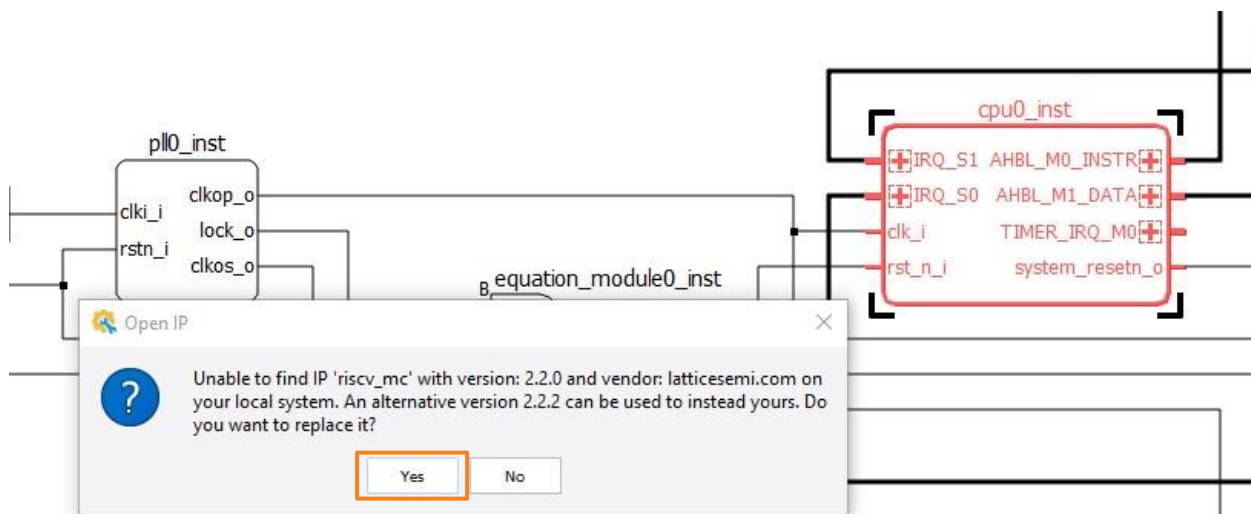

Figure 3.23. Propel Builder – Update RISC-V IP
2. Click **Yes** to update to the later version of the RISC-V IP as shown in Figure 3.23.